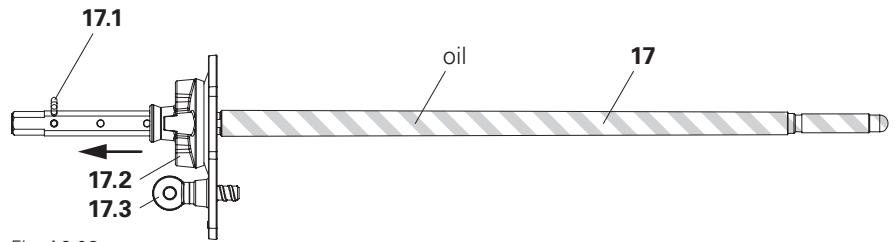

Fig. A6.08
3. Oil Tie MX18 (17), e.g. with PERI Bio Clean concrete release agent. (Fig. A6.08)